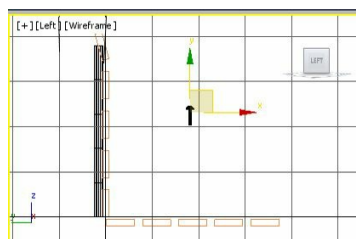

Figure 2-75 The rivet001 group in the Left viewport
13. Choose the **Zoom Extents All** tool and move *rivet001* in the Left viewport to visualize it properly, as shown in Figure 2-75.